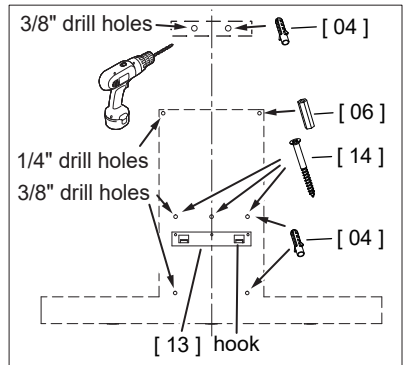

Fig 3
1. Drill holes at locations according to Fig 3 on the right and insert the matching anchors. (Fig 3)
2. Secure **Range Hood Bracket [13]** onto the wall using **#10 x 1.96" Screws [14]** as Fig 3 shows. Make sure the hooks of **Range Hood Bracket [13]** are pointing upward. (Fig 3)